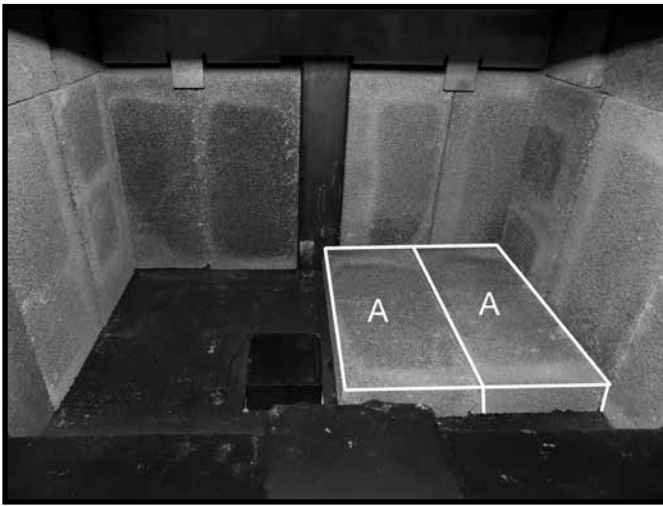

Figure 19. First two floor bricks in place.
- Place two "A" firebricks on the firebox floor as shown in Figure 19. on page 15